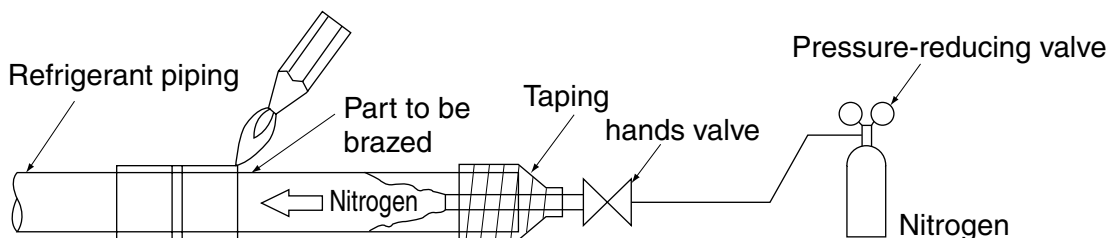

Fig. 14
- Nitrogen should be set to 0.02 MPa with a pressure-reducing valve if brazing while inserting nitrogen into the piping. **(Refer to Fig. 14)**